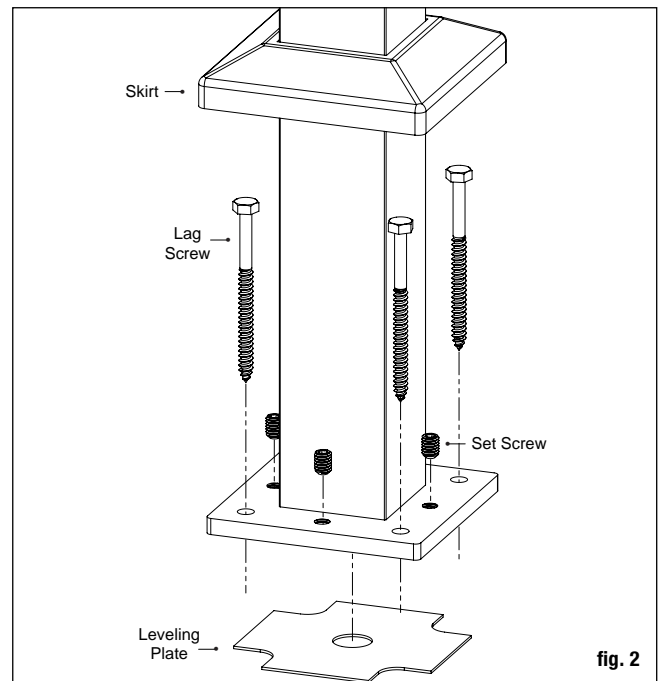

fig. 2
Step 1 Install posts by attaching the aluminum base to the surface of the deck. Position the post so the fastener will go into the floor joist, and make sure the decking is firmly attached to the joist at the location of the posts. If necessary, use wood blocking securely attached to the joist structure as reinforcement underneath the decking where the posts are located. Fasteners that hold the post base to the surface should be able to secure to joist or reinforcement braces, not just the decking itself. Note: When installing aluminum post on top of a wood surface, screws must be lagged into at least 3" of solid wood (not including the decking), 5/4" or 1 1/2" deck boards do not provide sufficient material for a safe installation. If necessary, add additional material to the underside of the surface (fig. 2).